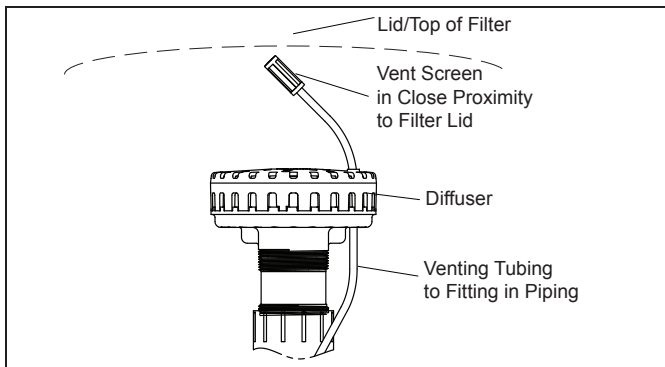

Figure 11. Automatic Vent Positioning
8. Make sure that the automatic vent tubing is in place (threaded through the diffuser) and the vent screen is installed at the top of the vent tubing. See Figure 11.
2. Before installing the lid, ensure that the air vent screen at the top of the air vent tubing is properly located above the diffuser such that it will be close to the underside of the lid when the lid is installed. See Figure 11.